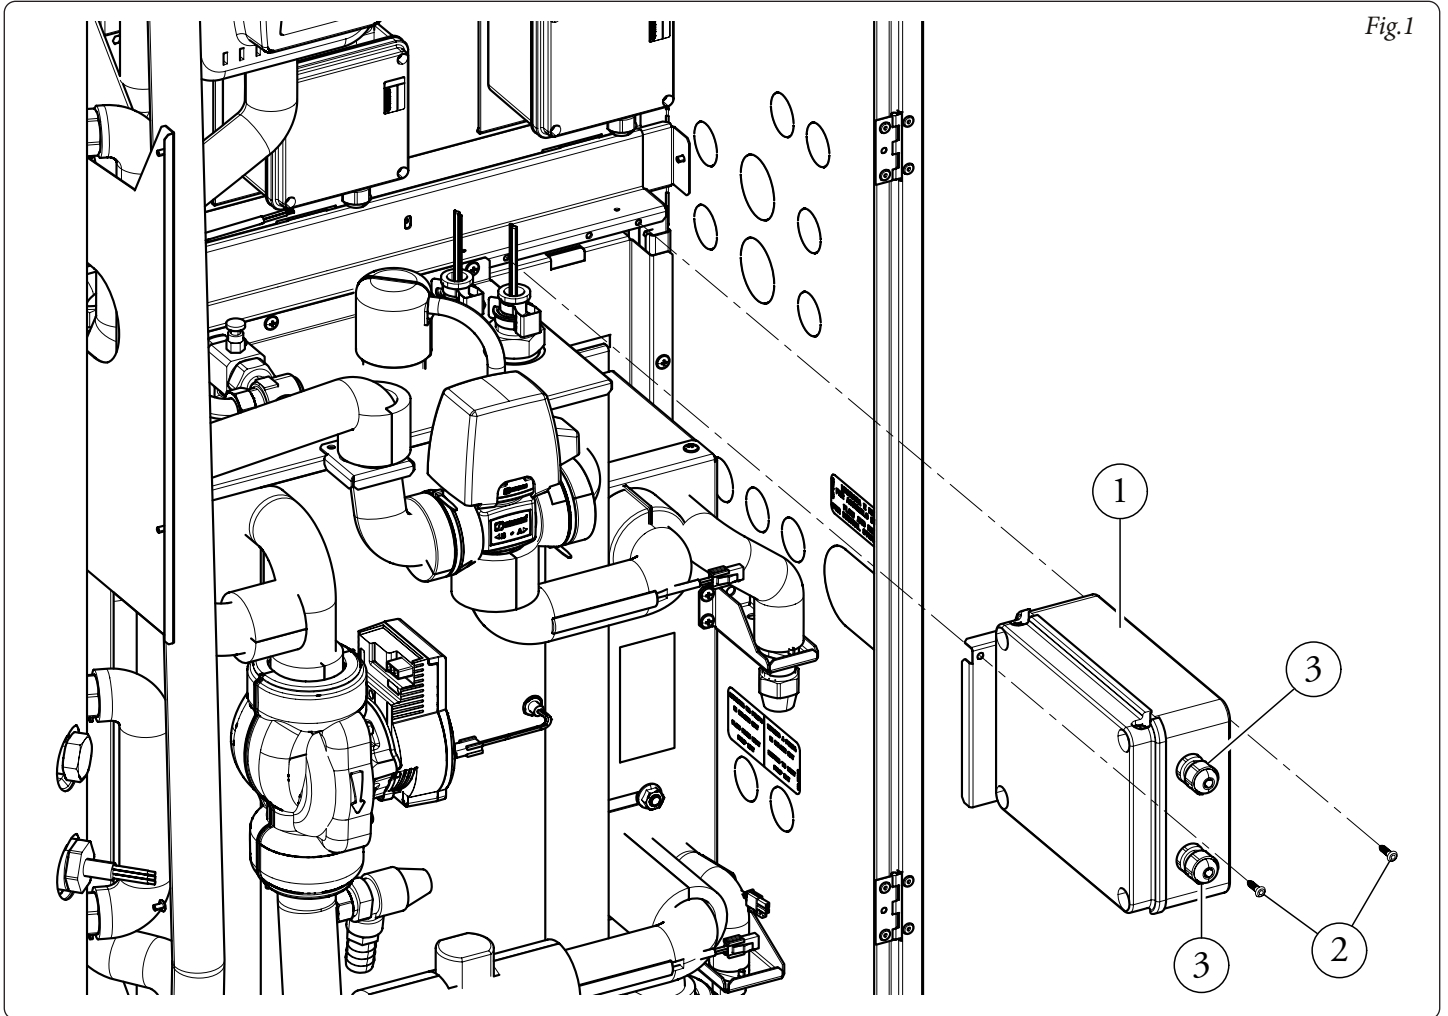

Fig.1
- Montare il quadro elettrico del Kit al Trio Pack o Trio Hydro avvitando le due viti (2) come indicato in Fig. 1.
- Mount the electrical panel of the Kit to the Trio Pack or Trio Hydro by tightening the two screws (2) as shown in Fig. 1.